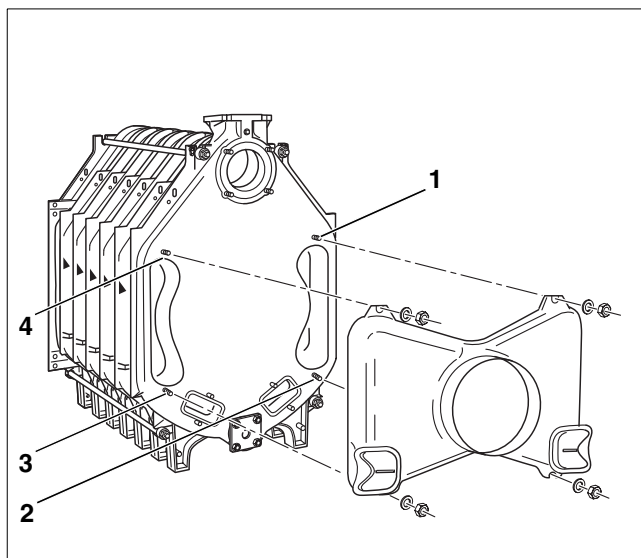

Fig. 26 Assembly – Fitting flue socket
- Fit the flue socket onto the four studs in the rear section (Fig. 26, ref. 1 – 4) and screw it on with the nuts and washers.